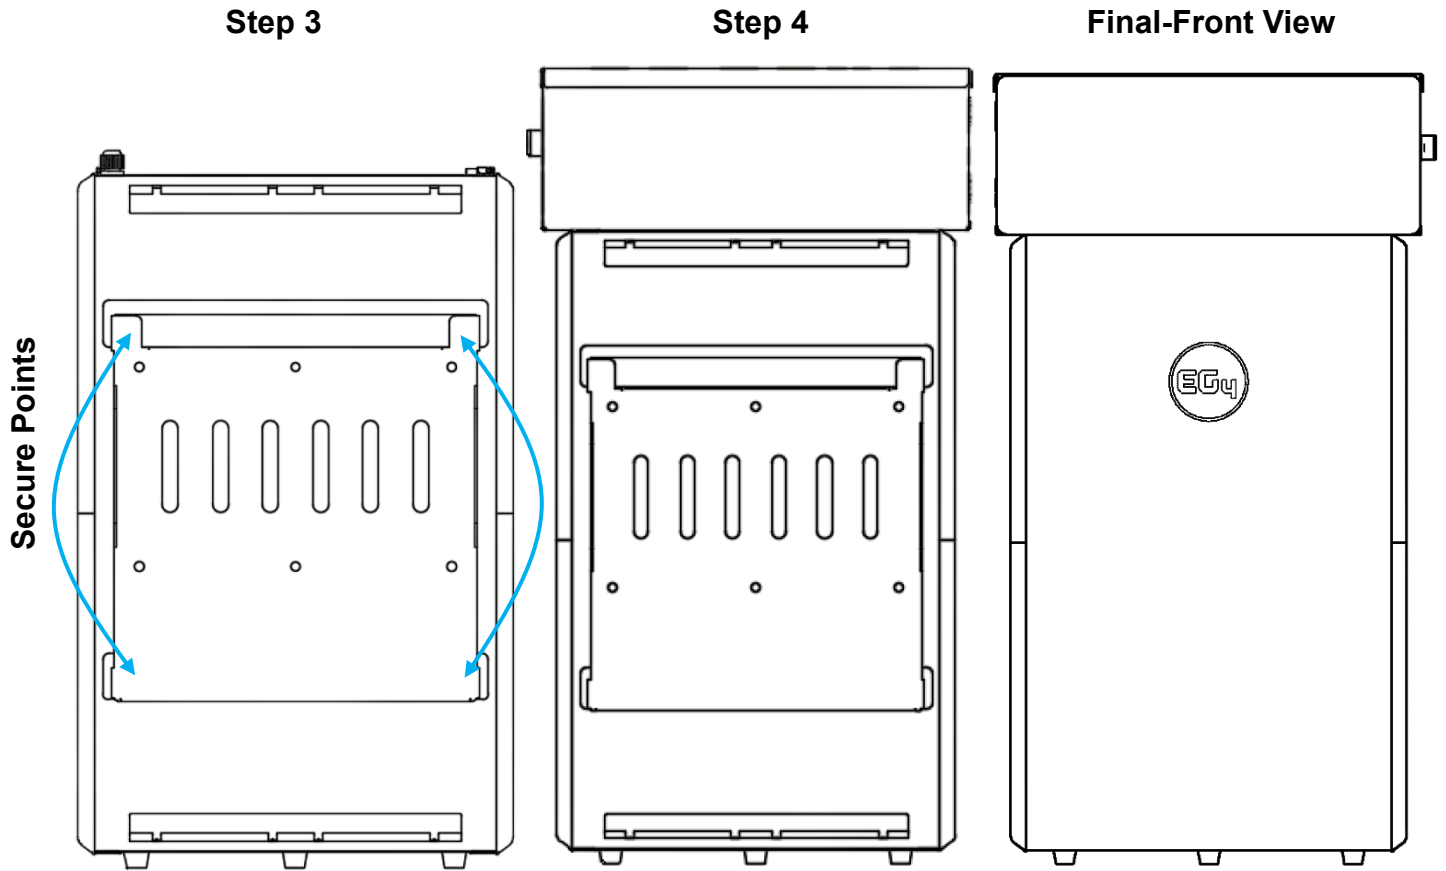

Figure 5 – WallMount Installation with Conduit Box Steps 3, 4 & 5
3. Attach the WallMount battery pack to the mounting bracket. To accomplish this, lift the battery up and hook the flange on the back of the battery into the flange on the front of the mounting bracket. Secure the battery to the mounting bracket with the 4 included side screws. See Figure 5.